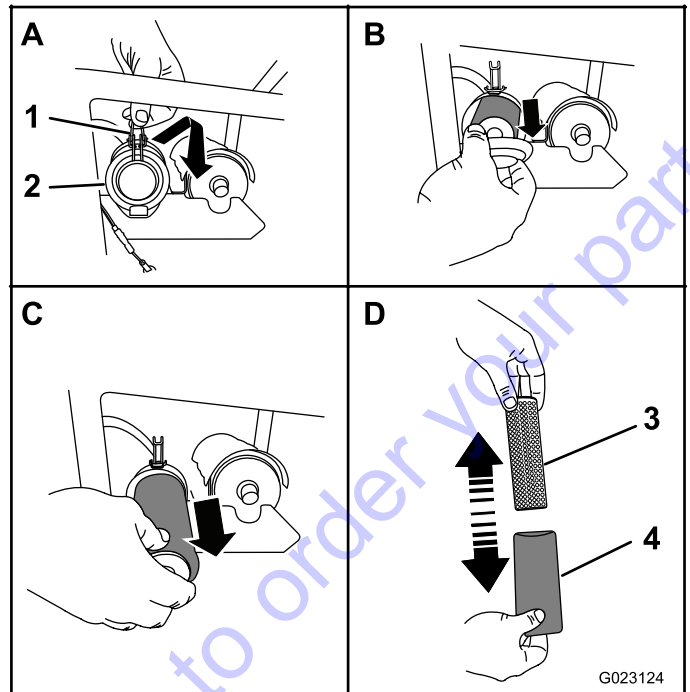

Figure 18
1. Open the latch of the air-filter cover (Figure 18).
2. Remove the air filter from the housing as shown in Figure 18.